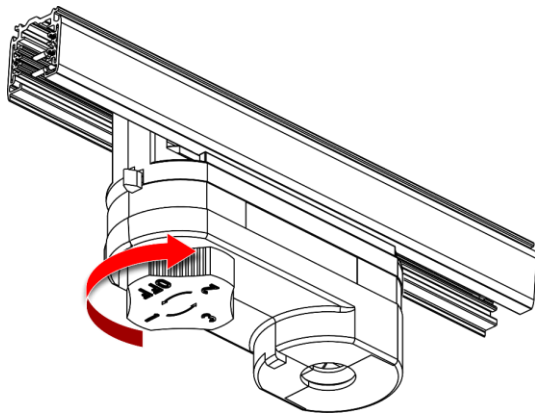

Fig. 09
05) Select the circuit with the **circuit selector (03)**. You can select 1-, 2- and 3-phase circuit, as shown in Fig. 09.